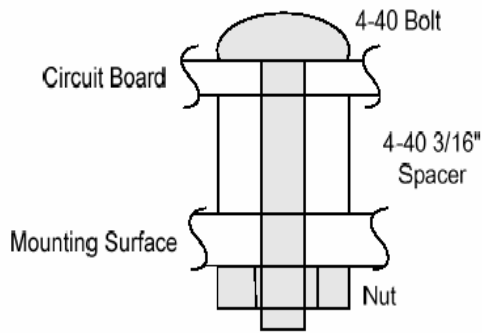

Figure 5: Diagram of spacer usage and base with connected charger board.
1. Use 3 4-40 ½" metal machine bolts, 3 4-40 round spacers, and 3 4-40 metal nuts to mount the charger board to your aluminum base. Align your charger board as shown below and attach it. **DO NOT MOUNT THE BOARD DIRECTLY TO THE METAL BASE; USE THE 4-40 SPACERS.** Figure 5 shows an attached charger board.